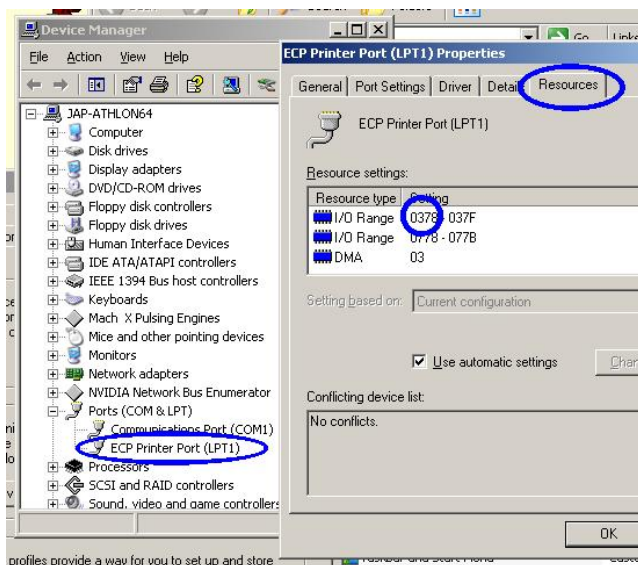

Figure 9.14 – IO address in Resources
8. Choose the “Resources” tab and take note of the first number under “Setting” that corresponds with the first “Resource Type” I/O Range (figure 9.14). This shows the standard value for a motherboard port. A PCI post will not start with a zero – it will probably be something like CD80 (as it is a hexadecimal number it can have digits A, B, C, D, E or F in it). Write down the four numbers and/or letters. This is your “Printer port address in Hex.”